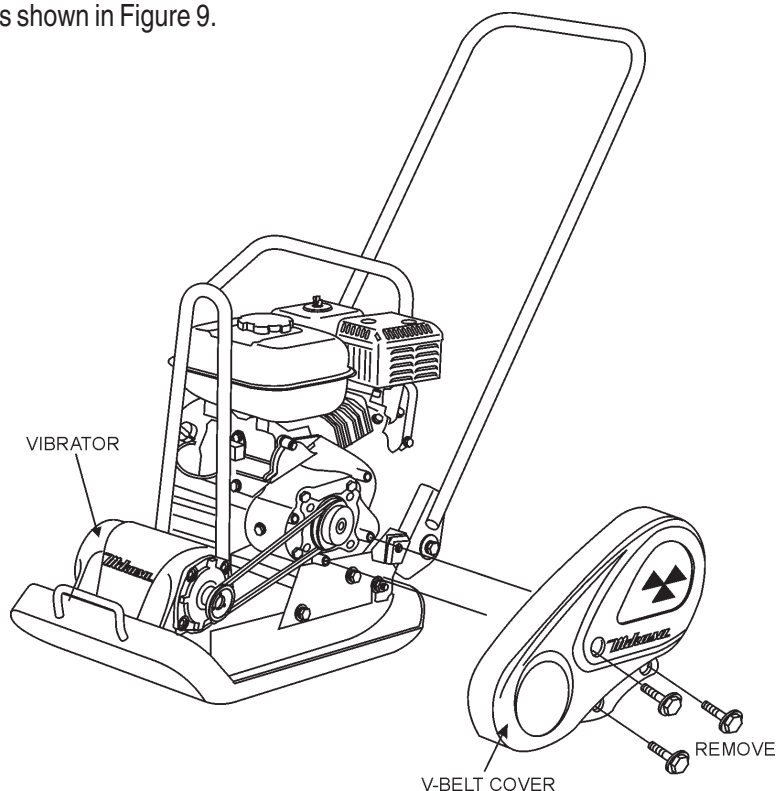

Figure 9. V-Belt Cover Removal
- To check the V-belt tension, remove the bolts that secure the belt cover to the frame as shown in Figure 9.